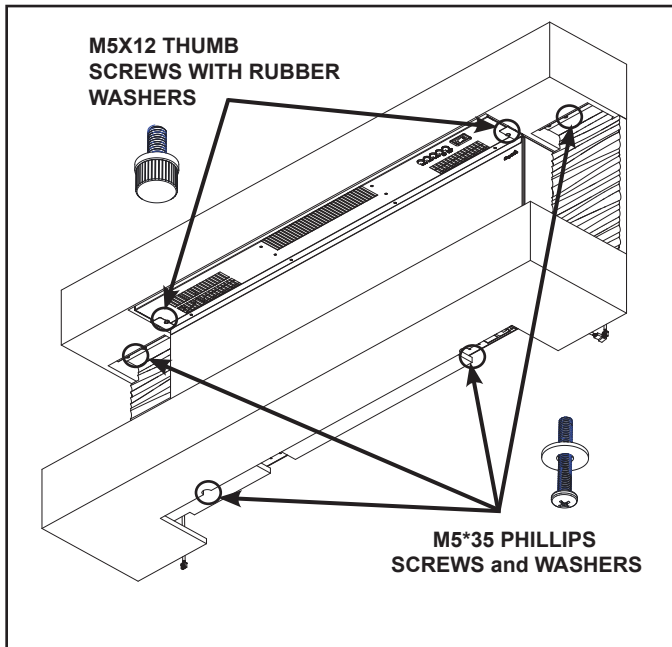

Figure 10
- Fasten the bottom mantel section to the appliance with two M5\*35 Phillips screws. See Figure 10.
7. Secure the top mantel to the appliance using two (2) M5X12 thumb screws with rubber washers. See Figure 10.
8. Secure the side panels using two (2) provided M5\*35 screws.